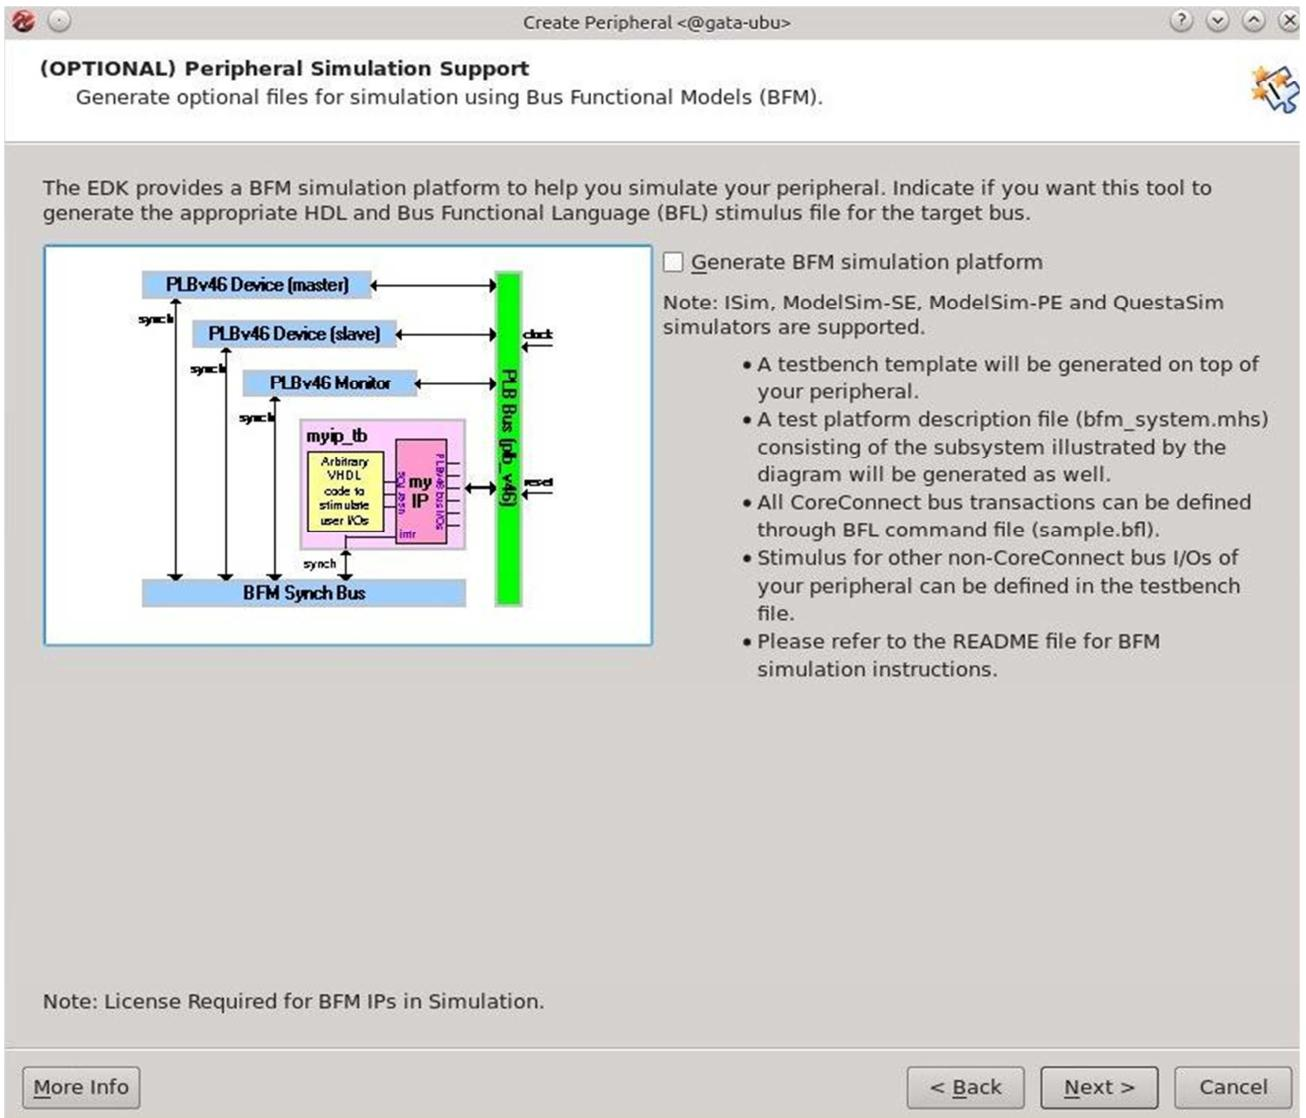

Figure 11: Create and Import Peripheral Wizard (Step 10)
**Step 10:** EDK designs can be simulated for functional and timing verification. In order to perform simulation, extra files will be needed and added for the simulation of the bus components. If you plan to perform simulations for your design then select “**Generate BFM simulation platform**” in the wizard page shown in **Figure 11**.